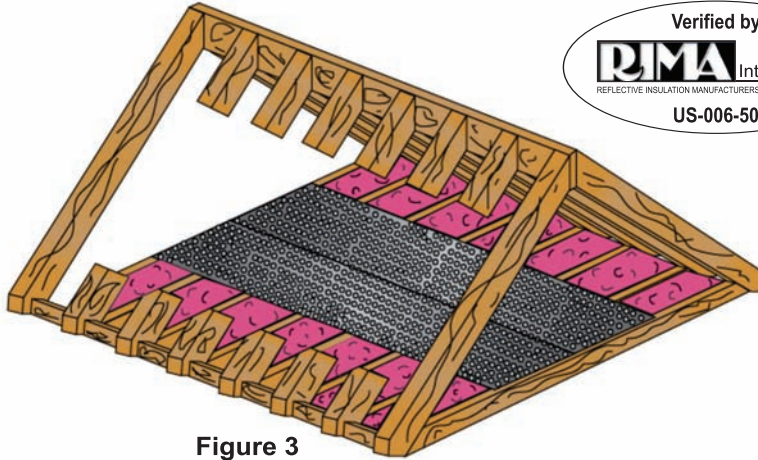
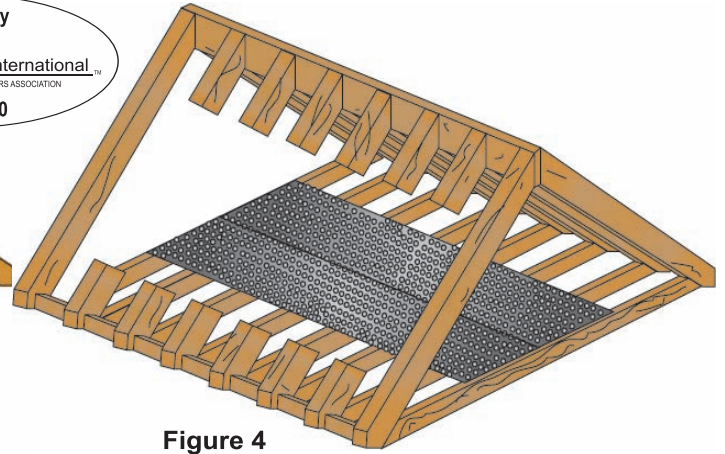

Figure 3
Figure 4
3. As shown in Figure 3 and Figure 4, the radiant barrier material should be installed perpendicular to the floor joists.